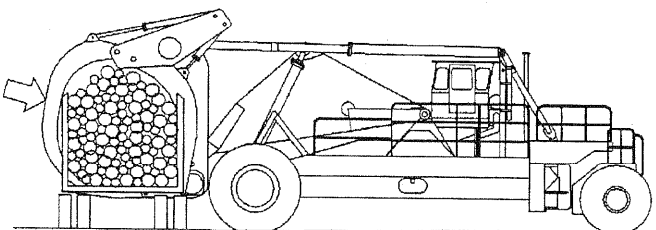

Fig. 4-5
5. Hoist the load clear of the truck or trailer and tilt the carriage back slightly to bring the load center closer to the drive wheel axle. See Fig. 4-5.